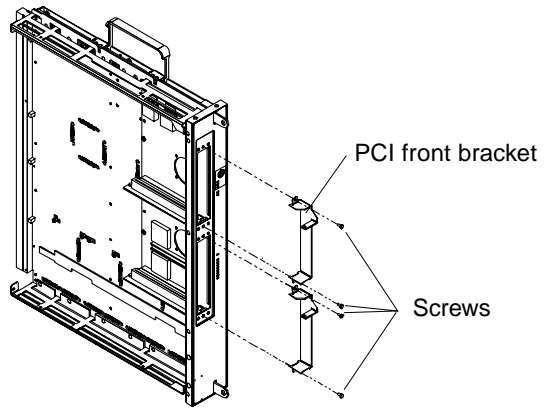

FIGURE 8 PCI Front Bracket Installation
1. Install the PCI front brackets. See FIGURE 8.